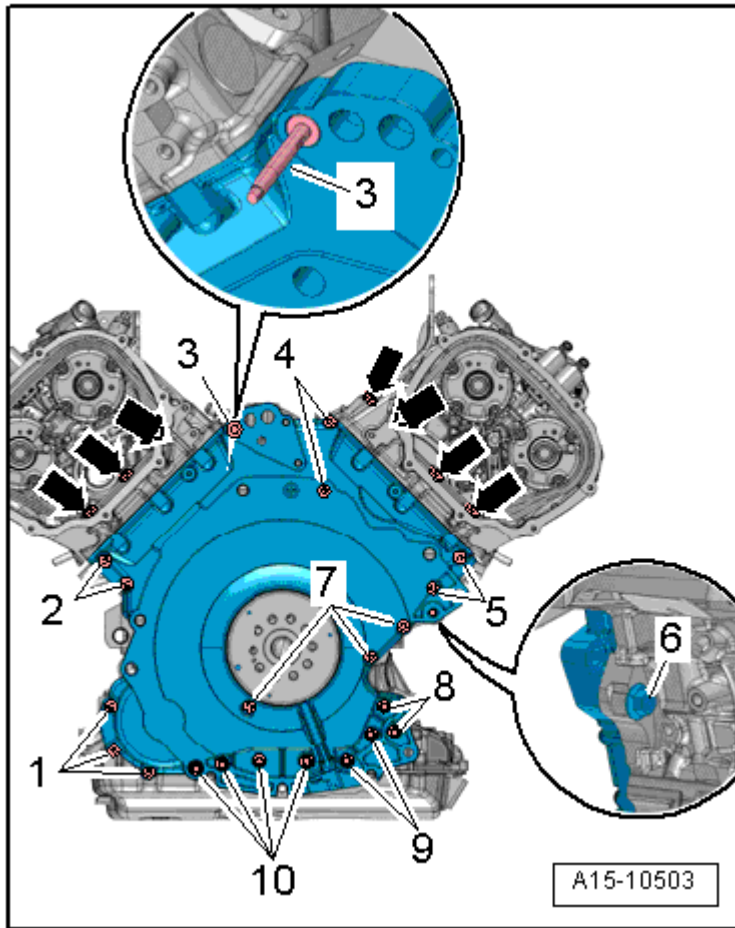

Fig. 7: Identifying Lower Timing Chain Cover Bolt, Tightening Sequence
- Tightening specification, refer to **Fig. 7**